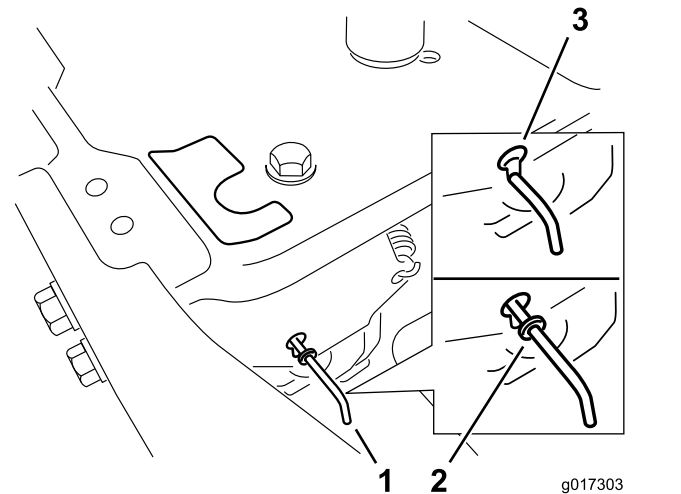

Figure 21
4. Move the bypass levers forward through the key hole and down to lock them in place (Figure 21).
Move the bypass levers rearward through the keyhole and down to lock them in place as shown in Figure 21.